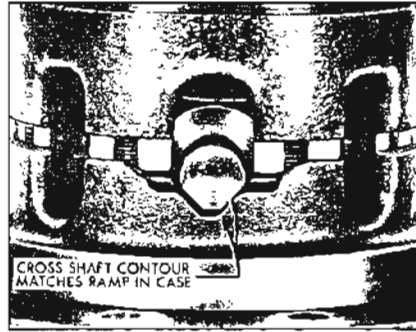
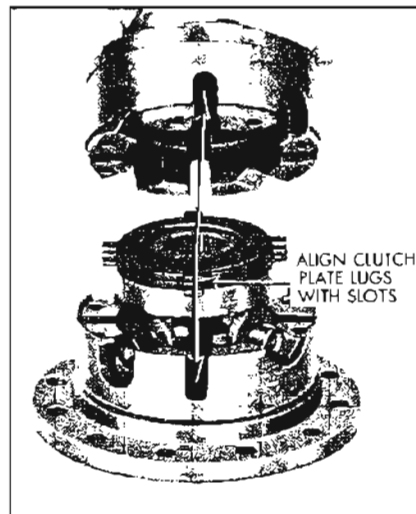

Figure 6-43—Matching Cross Shafts and Case Ramps
Figure 6-44—Installing Differential Parts
6. Install pinion gear and cross shafts as shown in Figure 6-44. Be certain bevelled sides of shafts match ramps in case. See Figure 6-43.